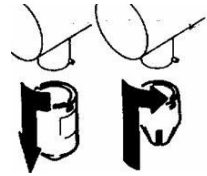

fig. 11
- Replace Cleaning Nozzle with Garnishing Nozzle! Soak a clean towel with disinfection cleaner and wipe the SANOMAT. (fig. 11)